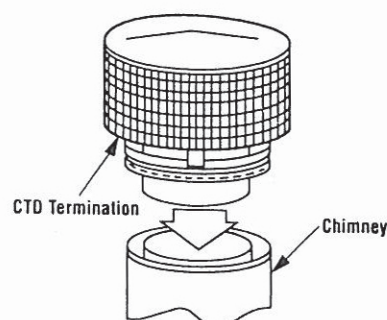

Figure 33
Note: If chimney extends more than 8' (2.4 m) above roof surface, guy wires are also recommended. Use three (3) guy wires, attach to locking band assembly, extend and secure to roof in a triangular pattern (Figure 33). Guy wires are not supplied by Superior.